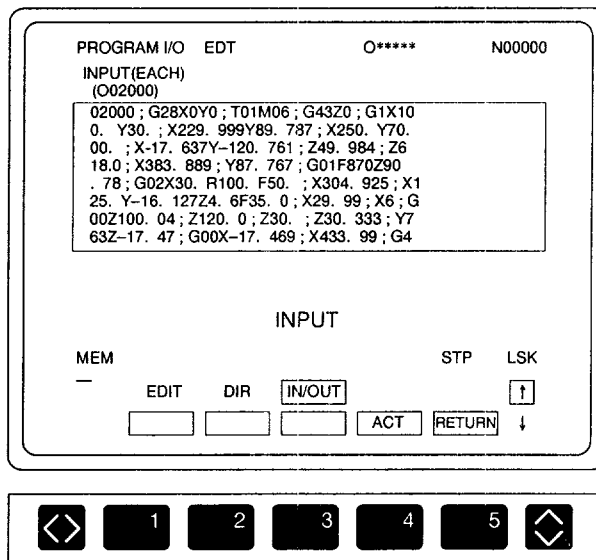

Fig. 4.35 Part Program Input Screen
- ① When "ALL" is selected, the message "ALL PROG. INPUT" is displayed and the message "INPUT OK ? (Y/N)" is displayed.
- To input all programs, enter "Y". Program input starts and the screen changes. As shown in Fig. 4.35, the list of programs being input is displayed.